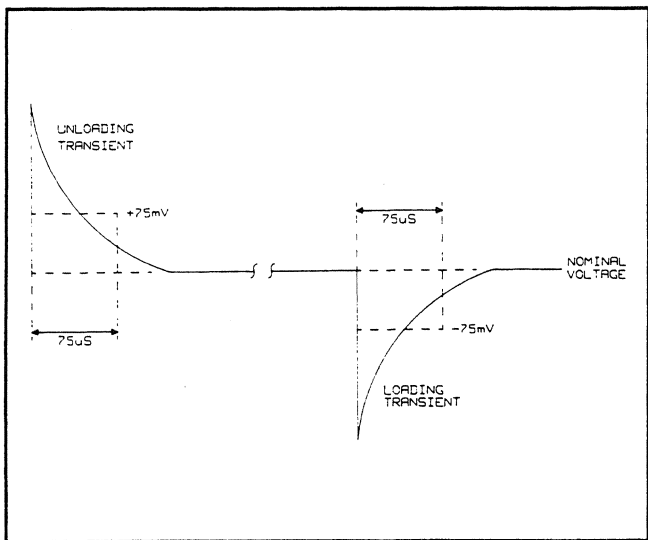

Figure 3-9. Transient Response Waveform
- Adjust the oscilloscope trigger level for a stationary waveform as shown in Figure 3-9 and check that the loading transient is within 75 mV of its final value in less than 75 μ s.
- Change the oscilloscope settings to + slope and repeat steps g and h for the unloading transient (see Figure 3-9).